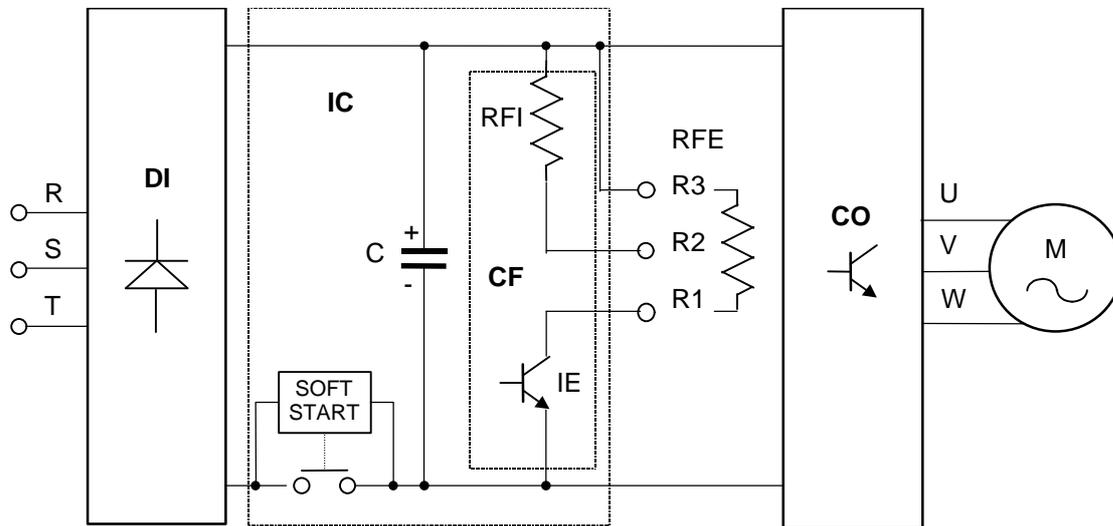

Fig. 3-4: Power stage basic diagram
b) The BIVECTOR converter power circuit can be represented as in the diagram of Fig. 3-4; DI is a three-phase diode bridge, which rectifies the input AC current and powers the DC intermediate circuit IC, where the capacitor C and the braking circuit CF are located; CO is the power converter in the strict sense of the word, whose variable frequency AC output supplies the servomotor.
Inside the braking circuit CF, IE is an electronic switch (for example an IGBT) used to adjust the braking current, RFI is a braking internal resistor, RFE is the optional external braking resistor, while R1, R2 and R3 are the terminals mentioned under 3.4.2.4.1; as clearly illustrated in Fig. 3-4 and as deduced from the connections prescribed in the above mentioned section, one or the other resistor can be used.
The adjusting circuit controlling I.E. depends on the V_{BUS} voltage to the C capacitor ends (rated value: $565 V_{DC}$ @ input voltage $U_{VN} = 400 V_{AC}$); the CF circuit trip threshold is $775 V_{DC}$. If the power generated by the braking motor exceeds the power that can be dissipated by resistor RFI or by resistor RFE and the V_{BUS} voltage rises beyond $775 V_{DC}$, an alarm circuit, not represented in Fig. 3-4, stops the operation of the entire converter⁴.